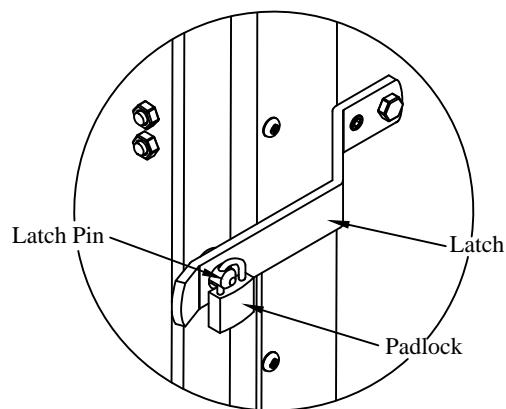

Figure 26: Padlock location.
9. **Lock** the padlock through the hole in the latch pin (Figure 26).